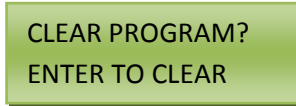

Figure 15.1
- a. This Action allows for the Time-Keeper® programming to be wiped clean for a fresh start. To Clear all Programming, press the ENTER button. See Figure 15.1 for an example.